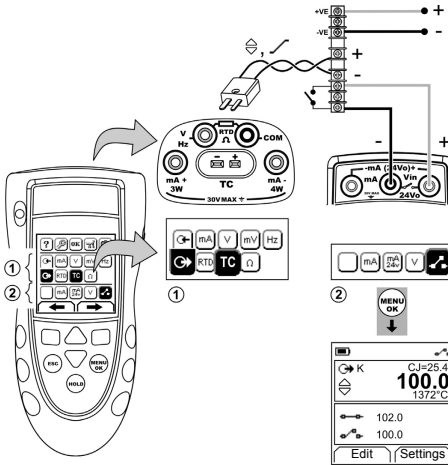

Figure 12: Example configuration - Switch test
1. Connect the instrument (Figure 12) and, if necessary, adjust the *Set Up* (Table 1).